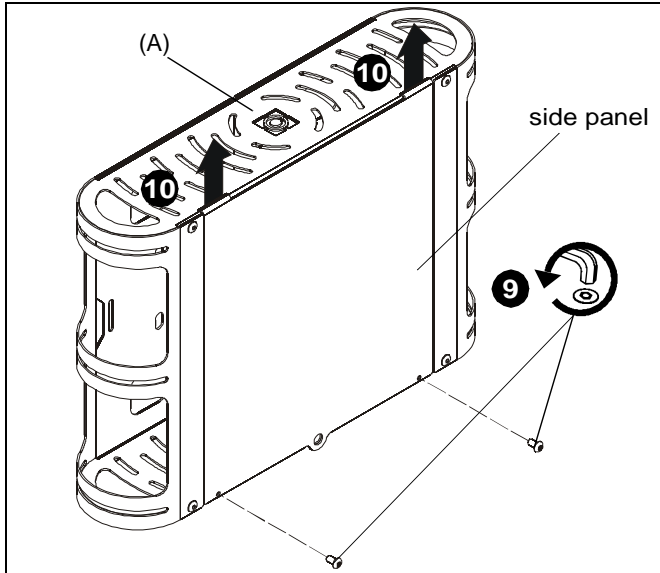

Figure 4
9. Use 5/32" security hex key (H) to remove two security screws holding side panel to CPU holder (A). (See Figure 4)
10. Slide side panel up to remove it from CPU holder. (See Figure 4)